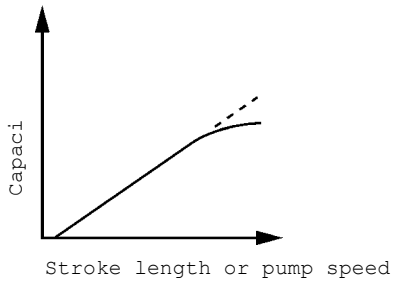

Fig.4-1 Capacity graph
(1) The discharge capacity decreases as shown in Fig. 4-1.